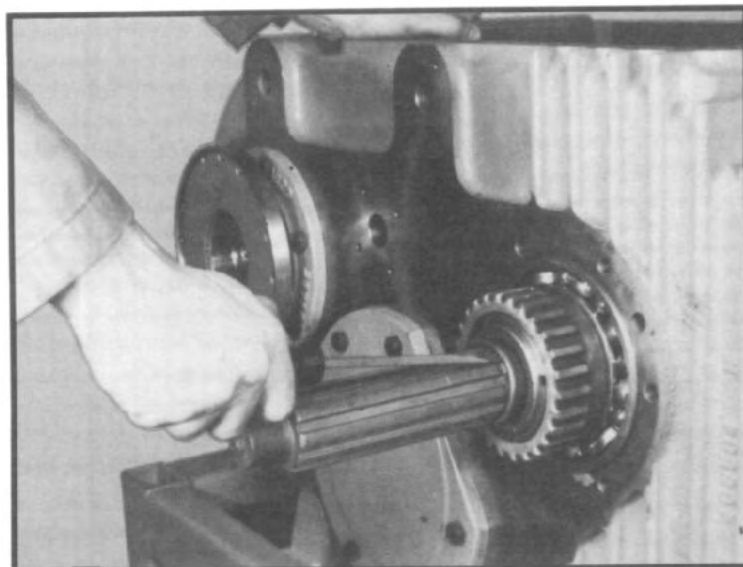

Fig. 65
- 3.12 Remove retaining ring from front of sun gear shaft and remove shaft. (See fig. 65.) If sun gear requires disassembly remove snap ring and sun gear. Inside retaining ring can be removed if required.